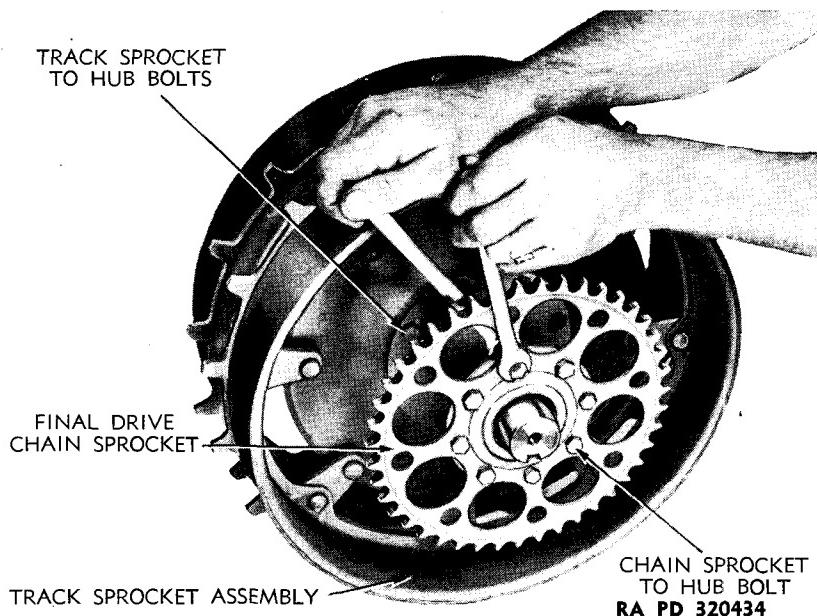

Figure 23 — Track and Chain Sprocket Assembly
- a. Remove Chain Sprocket.** Remove eight bolts, nuts, and lock washers holding final drive chain sprocket to track sprocket hub (fig. 23).
a. **Description.** The final drive chain is of the single-roller type requiring no lubrication. It is equipped with a connector link for removal or installation of chain. The chain is also equipped with a half-link which can be removed to compensate for wear. The connector link and half-link are secured by cotter pins. The final drive chain connects the final drive sprocket with the chain sprocket on track sprocket assembly (fig. 23). The tension adjustment of the final drive chain is made by moving track sprocket shaft brackets.